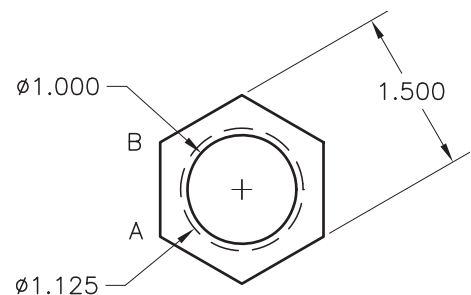

Fig. 31-10
8. Create the top view of the nut shown in Fig. 31-10 according to the dimensions given. Then find the information requested below. This drawing is also available as **1-8UNC2B.dwg** in the Drafting & Design Problems section of the OLC for this book.